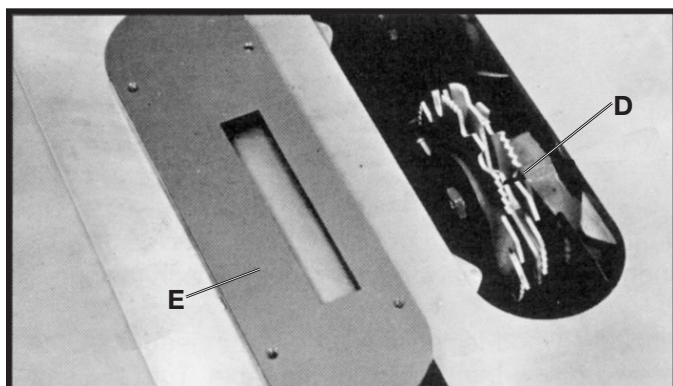

Fig. 69
The dado head set (D) Fig. 69, is assembled to the saw arbor as shown. **NOTE: THE OUTSIDE ARBOR FLANGE CAN NOT BE USED WITH THE DADO HEAD SET, TIGHTEN THE ARBOR NUT AGAINST THE DADO HEAD SET BODY. DO NOT LOSE THE OUTSIDE ARBOR FLANGE, FOR IT WILL BE NEEDED WHEN REATTACHING A BLADE TO THE UNISAW ARBOR.**
⚠ CAUTION THE ACCESSORY DADO HEAD SET TABLE INSERT (E) FIG. 69, MUST BE USED IN PLACE OF THE STANDARD TABLE INSERT.